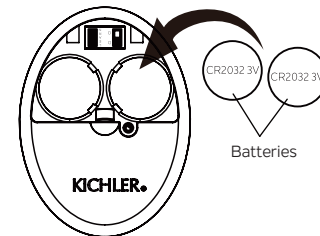

Fig. 29
**Step 2.** To make fan operational, install two 3V CR2032 batteries (included). The batteries should be installed with the positive (+) side up. Replace with CR2032 batteries when necessary. (Fig. 29)